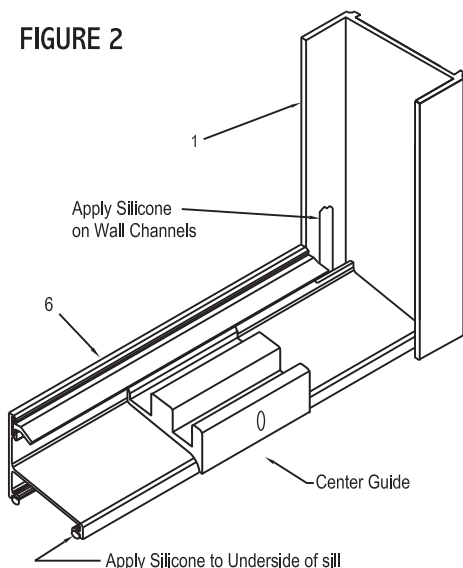

FIGURE 2
1. Set wall jamba (1) in place on walls, centering bottom of jamba on rim of tub. Hold plumb and mark walls for screw holes.
2. Remove and drill 3/16" diameter holes in walls (use a carbide tipped drill bit for tile walls). Insert plastic wall anchors (2) into holes. Silicone where the wall meets the rim of the tub to seal the bottom of jamb. On the shower head side of enclosure, secure door center bumper (4) and bottom bumper (4a) with #8 x 1-1/4" screws (3) and top of wall jamb with another #8 x 1-1/4" screw (3). On the other side, secure door center bumper (4) with a #8 x 1-1/4" screws (3) and top and bottom of wall jamb with two more #8 x 1-1/4" screws (3). **NOTE:** Glass panels close into the recessed portion of the bumpers. The recess is toward the inside of the tub on the shower head side, and towards the outside on the other jamb.
3. Cut sill (6) to fit opening between jamba. Run a bead of silicone full length to the underside of sill (See Figure 2) and apply silicone to inside of jamb where jamb meets tub. On inside of jamb, run a 1/4" bead of silicone 1-1/4" up the outside leg of each wall jamb (see Figure 2). Set sill in place and press firmly to rim of tub. Wipe off any excess silicone before curing. Use tape to hold in place until silicone has set.
4. Cut header (8) 1/32" to 1/16" less than opening width and set in place.
5. To set slider glass in place hold inside slider panel inside of tub or shower pan, insert rollers up into header and lower into place. The inside slider glass has only one hole for the inside pull (10) and will close against the wall jamb on the shower head side. Next, insert lower end of outside slider in front of inside slider by pushing lower ends far enough in to allow clearance on inside edge of tub or pan. Avoid roller bracket to roller bracket contact while lifting panel into place. The outside slider will close against the jamb opposite the shower head.
6. Place center guide (7) in the middle of the sill (see Figure 2). Make sure the center guide is hooked into position on the sill. Attach center guide with #6 x 3/8" screw (14).
8. To install towel bar (9), first attach bases of recessed finger pulls (11b) to the towel bar (9). Place nylon towel bar insert sleeves (13) into the holes in the glass (17). Next, hold the towel bar (9) against